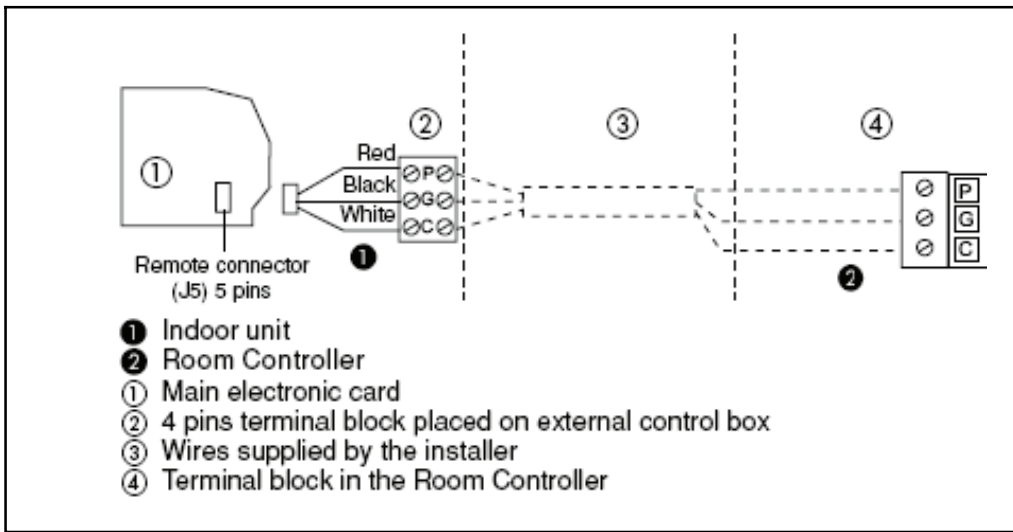

Fig. 31 - Control Wiring Between Indoor and Outdoor Units
5. Connect the other end of the wire harness to the field supplied wiring between the indoor unit and the wired control as shown in wired control installation instructions and Fig. 31.